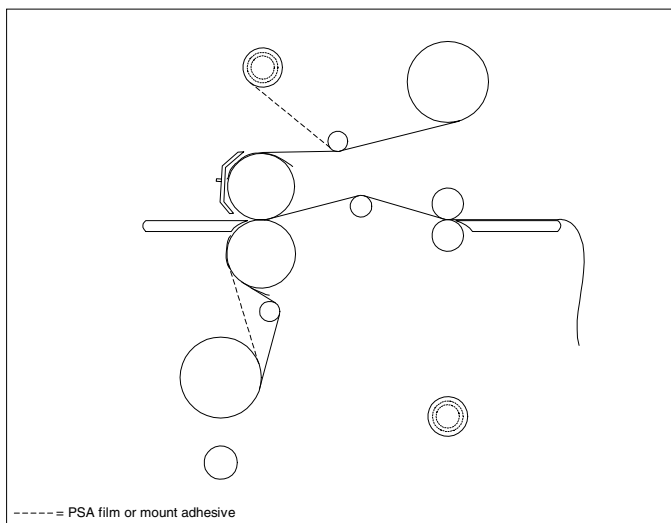

Fig. 31
6. Tack the new film to the existing film on the heat rollers. For PSA film, attach the release liner to the rewind tube (Figure 31).